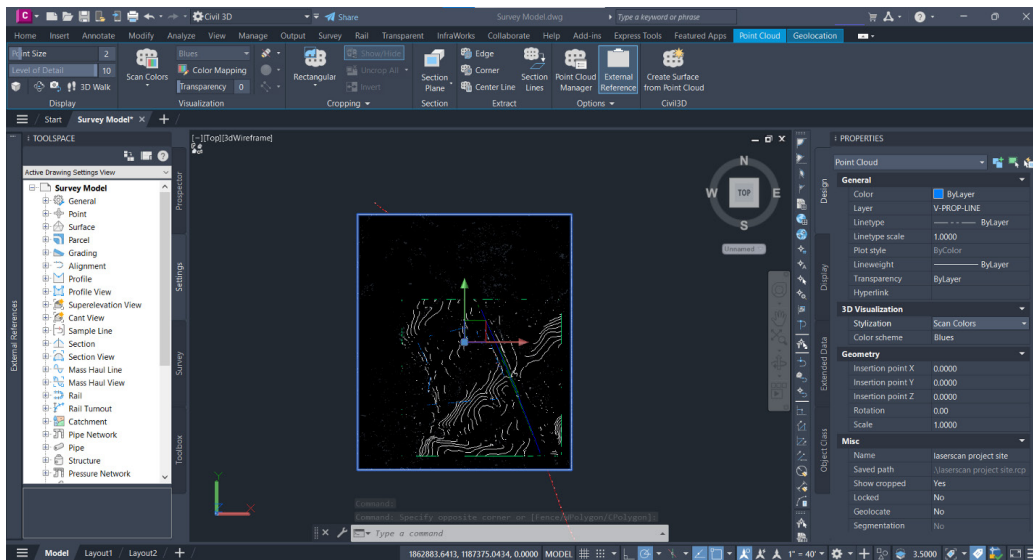

Figure 5.17 – Point cloud attached within Civil 3D
- When the point cloud is attached, we should see it drop behind our existing topography file to check our accuracy, see *Figure 5.17*. Ensure you have the **PROPERTIES** tab on and displayed. Hover over the point cloud, and when it highlights, click it. You should see in the **PROPERTIES** tab that a point cloud is selected with many other parameters Civil 3D is reading from the dataset.